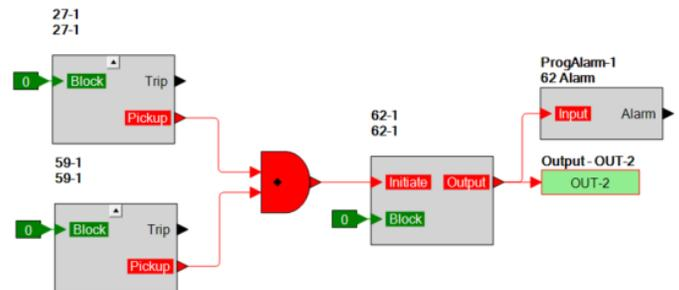

Figure 5 - BESTLogicPlus Live Metering
To test the logic, 1 pu p-n voltage was set on channel A (120) at 0 degrees. Channel B and C were set at 0.5 pu p-n voltage (60), both at an angle of 180 degrees. When the voltages were applied to the relay, the logic metering was viewed and indicated that the AND gate was picked up and the 62 timer was timing. 5 seconds later (62 timer setting) Output 2 trip contact closed and the 62 Alarm was displayed (see Figure 5). When the conditions causing the trip were removed, the Logic Metering transitioned. The 62 Alarm remained on until the Alarm was reset.